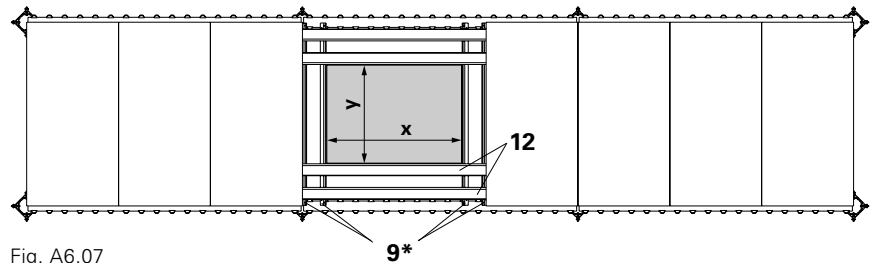

Fig. A6.07
Install Edge Beam SRT 150-2 (9\*) in a suspended position. Lay Filler Timber SPH 150 (12) in a flat position. Permissible widths of influence for flat Filler Timber SPH, see Table A6.02 on next page. (Fig. A6.07 + A6.08)